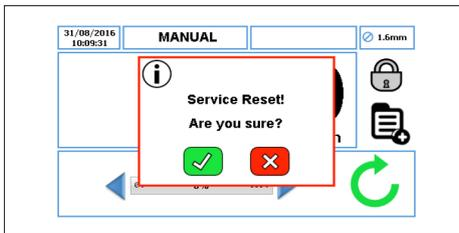

Figure 6 Service Reset
4. Continue to hold these two buttons for at least 30 seconds. The user will be prompted to confirm the selection as per *Figure 6*: